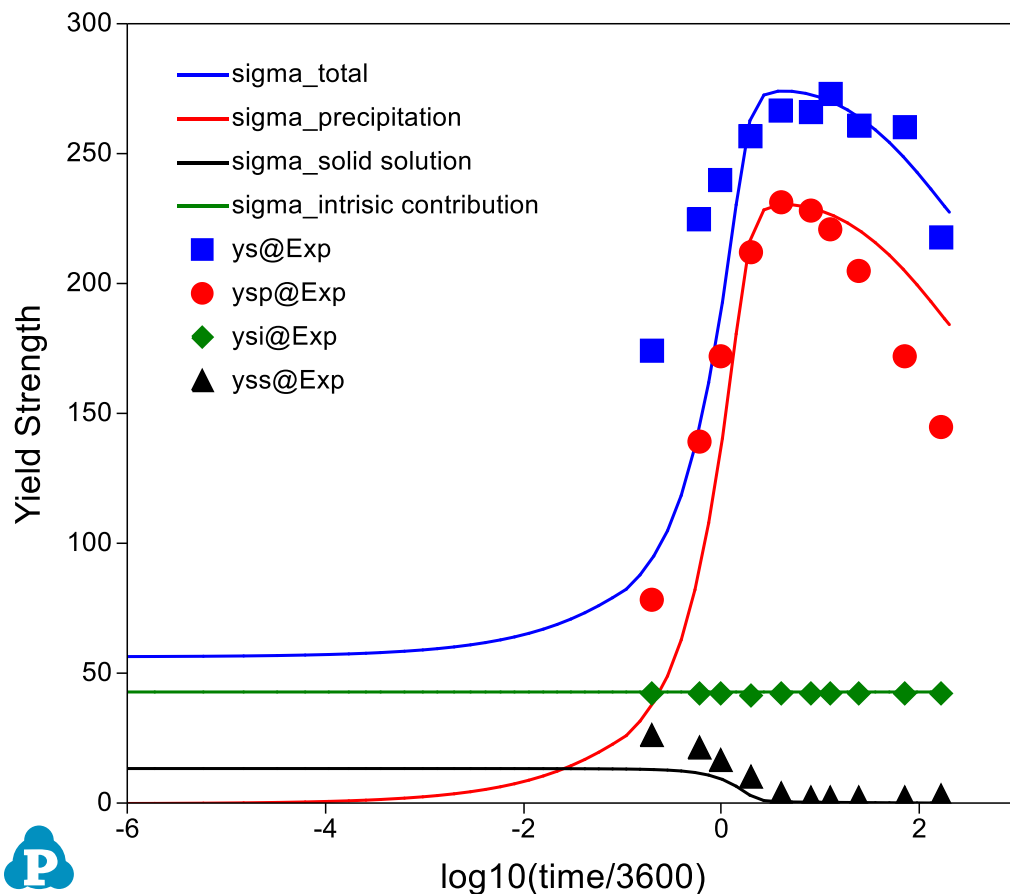
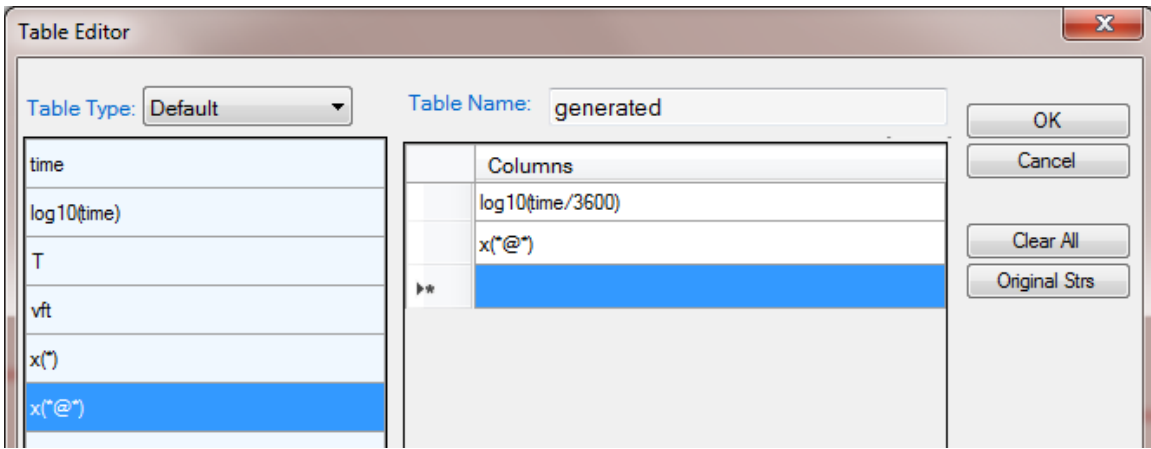
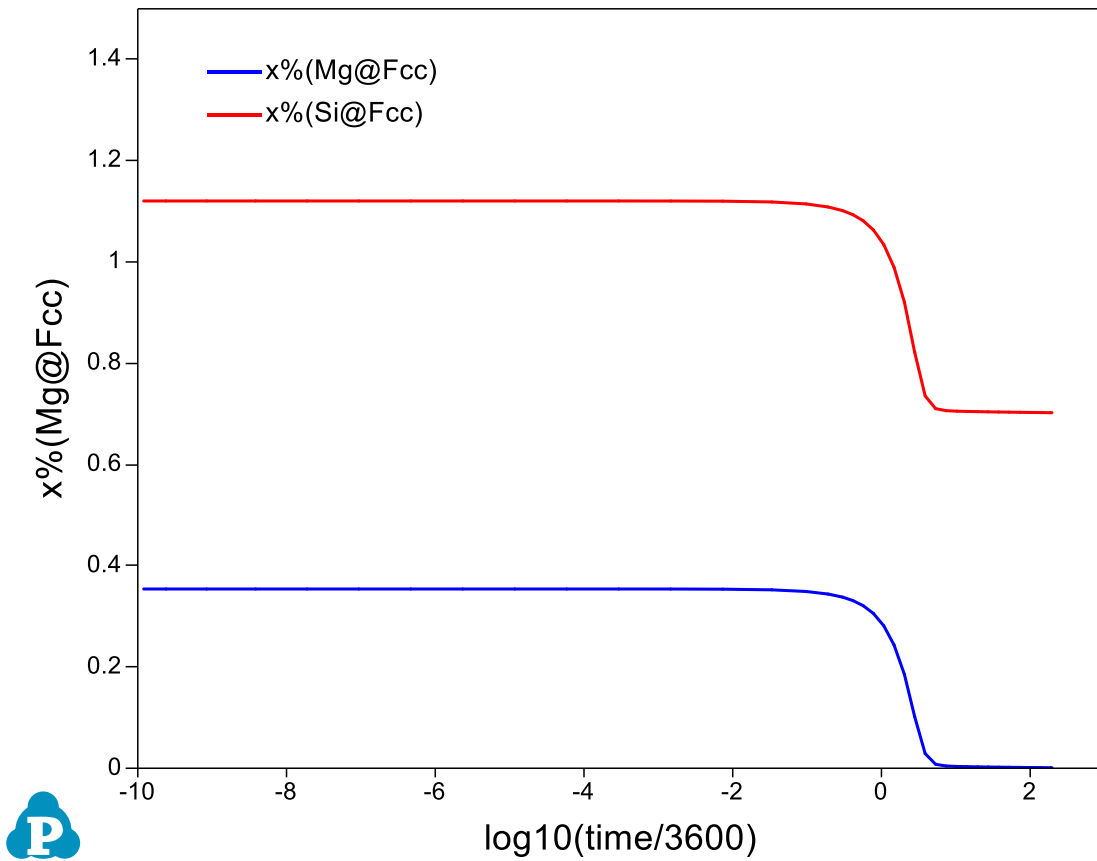

Figure 3.6.3: A comparison of the calculated yield strength (lines) with the experimental data (symbols)
Figure 3.6.4: Create a new table to show the evolution of phase compositions
Figure 3.6.5: Evolution of elemental solubility in the matrix Fcc
- Figure 3.6.3 shows a comparison of the calculated yield strength (lines) with the experimental data (symbols). The green line (symbol) represents the intrinsic contribution; the black line (symbol) represents the solid solution strengthening; the red line (symbol) represents the precipitation strengthening; and the blue line (symbol) is the total from all three contributions;
- Create a new table as shown in Figure 3.6.4, select $\log_{10}(\text{time}/3600)$ as x-axis, and $x\%(\text{Mg}@_{\text{Fcc}})$ and $x\%(\text{Si}@_{\text{Fcc}})$ as y-axis to create a plot as shown in Figure 3.6.5;
- It is clearly seen from Figure 3.6.3 and Figure 3.6.5 that with the formation of Mg_5Si_6 precipitate, the solubility of Mg and Si in Fcc decreases and solution strengthening also decreases;